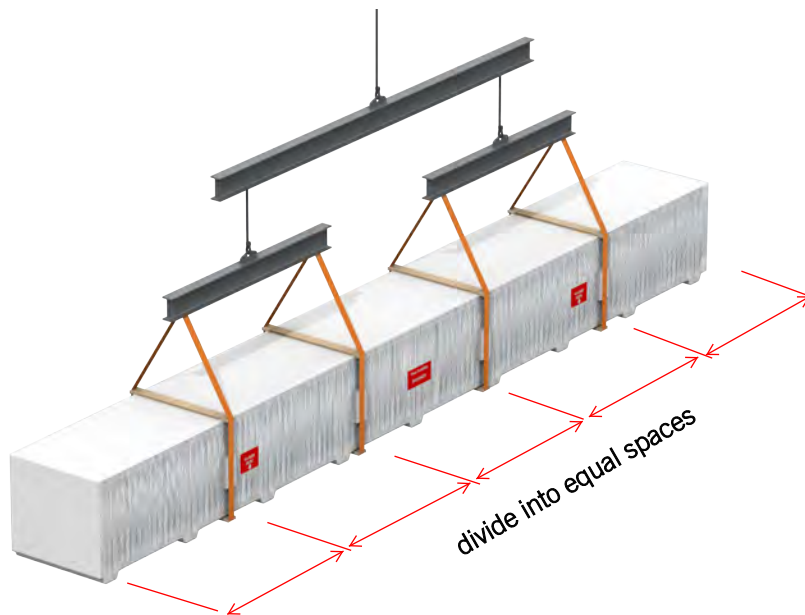

Figure 5.15
5.15 Bundles over *4,000 lbs. and/or over 44'* may be lifted as shown in figure 5.15